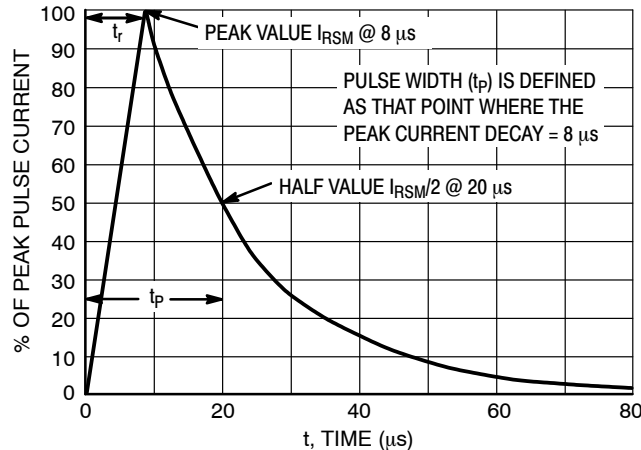

Figure 7. 8 x 20 μs Pulse Waveform
1. Surge current waveform per Figure 7.